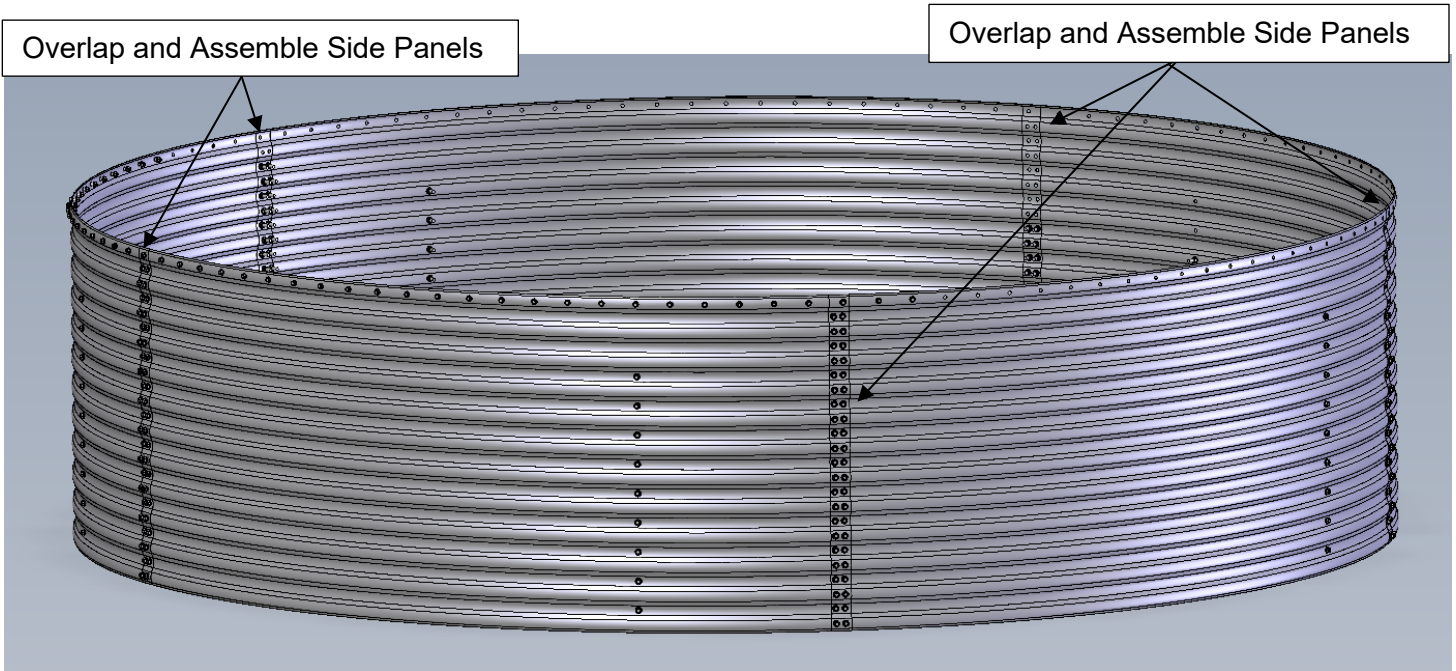

Figure 4-15: Assemble Top Tier Side Panels
5. Note the panels have a two-bolt row going up and down each end of the panel. See Fig. 4-15.
6. Overlap the ends of each panel and connect the panels using the .438 – 14 x 1.50 bolts and .438 – 14 hex nuts provided. See Fig. 4-15.